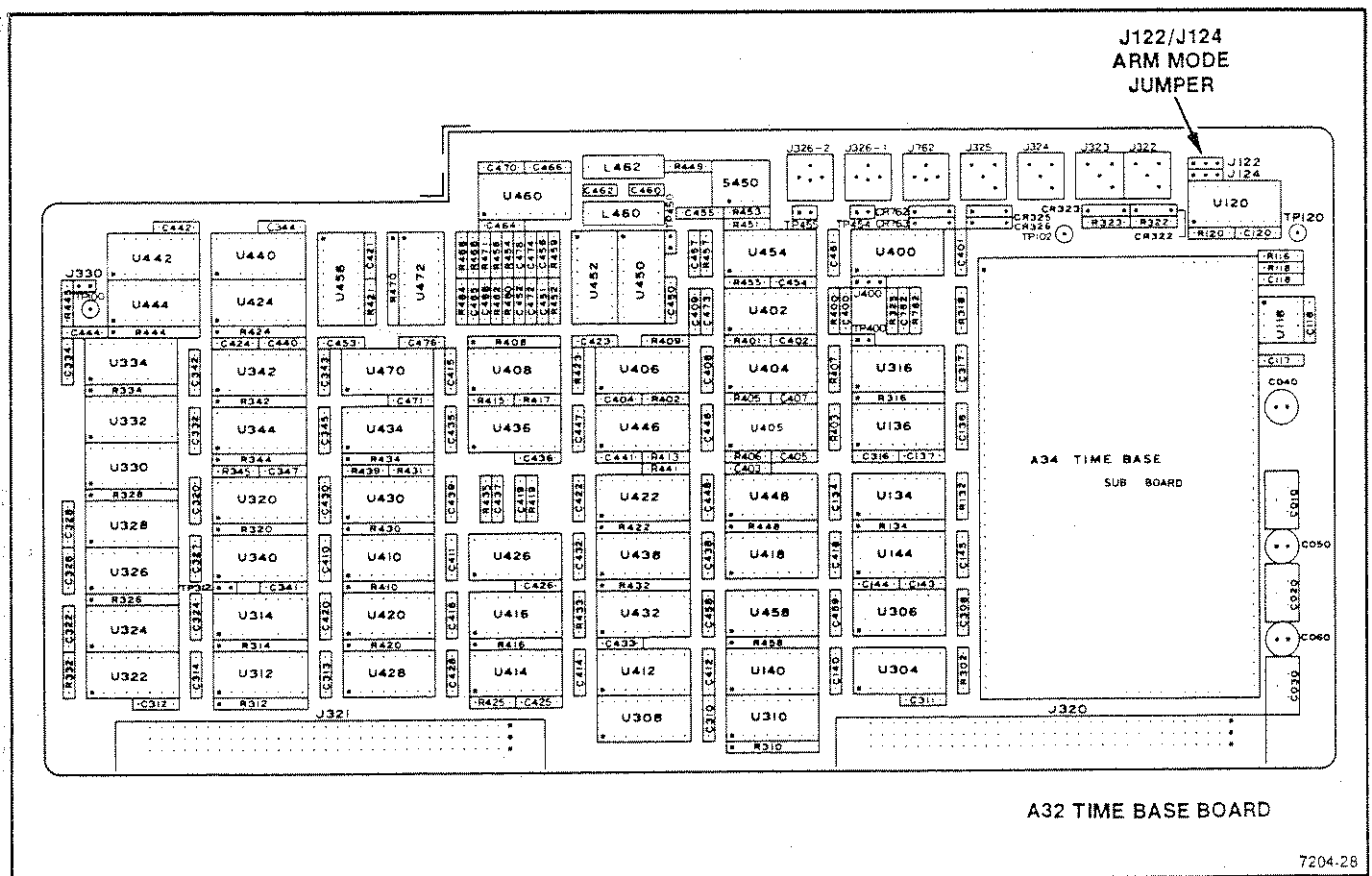

Fig. D-7. External arm signal jumper location.
5. Carefully lift the board up out of the chassis about two (2) inches to access the J122/J124 jumper.
6. Change the J122/J124 jumpers to the External Arm Signal mode as follows (Fig. D-7):
The clock out jumper (Fig. D-7) allows selection of a direct mode or divided mode. The direct mode outputs either the internal 200 MHz signal or the externally supplied clock when the source is external. The divided mode outputs a clock of the same rate as the sampling clock.